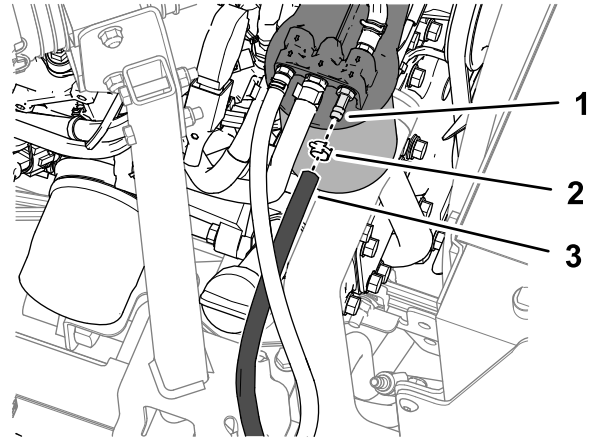

Figure 14
1. Remove the spring-type hose clamp and fuel-tank hose at the rearmost fitting of the fuel filter head (Figure 14).